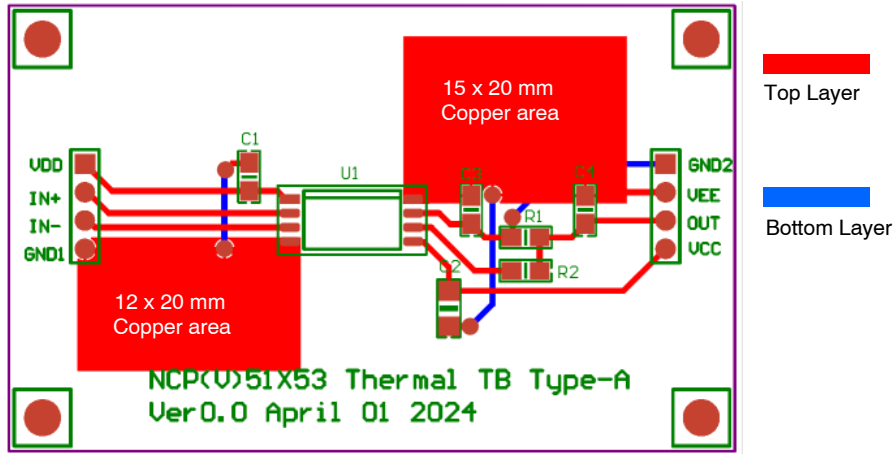

Figure 4. Reference Layout for the Type-A
- 7. As specified for a reference layout shown in Figure 4. The DUT is mounted on a 65 x 40 x 1.6 mm FR4 substrate with an additional heat spreading copper of 240 mm²/300 mm² (Primary/Secondary). The copper thickness is 1 oz and test conditions is under natural convection or zero air flow.